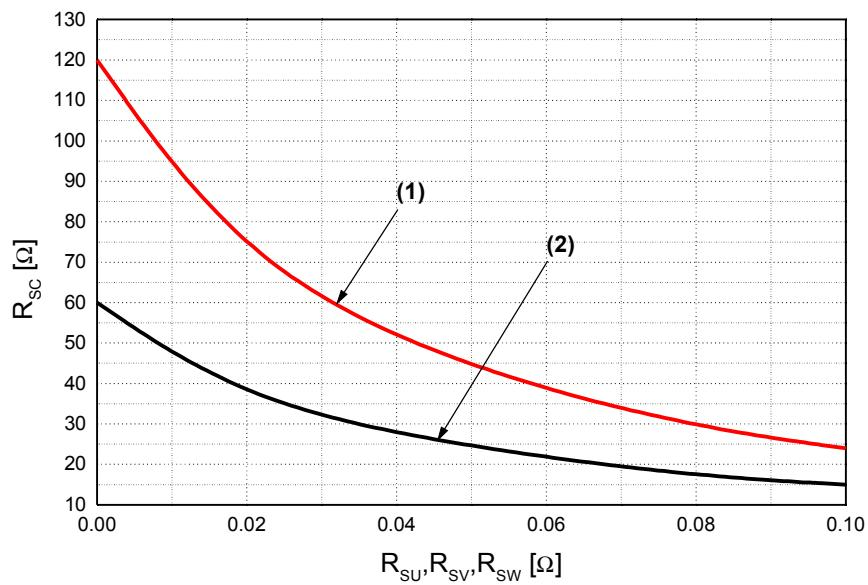

Fig. 7. R_{SC} Variation by change of Shunt Resistors (R_{SU}, R_{SV}, R_{SW}) for Short-Circuit Protection
- Short-circuit current protection is functioning only at the low-sides. It would be recommended that the value of the external sensing resistor (R_{SC}) should be selected around 60 Ω in order to make the SC trip-level of about 22.5A at the shunt resistors (R_{SU}, R_{SV}, R_{SW}) of 0 Ω . For the detailed information about the relationship between the external sensing resistor (R_{SC}) and the shunt resistors (R_{SU}, R_{SV}, R_{SW}), please see Fig. 7.